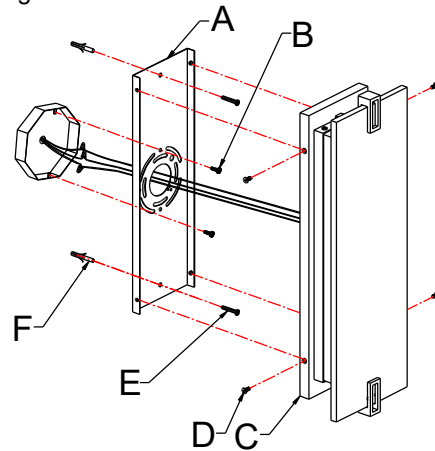

Fig. 2
### CONNECTING THE WIRES (Fig. 2)
6. Connect the electrical wires as shown in Fig. 2, making sure that all wire connectors are secured. If your junction box has a ground wire (green or bare copper), connect the fixture's ground wire to it. Otherwise, connect the fixture's ground wire directly to the mounting plate (A) using the green screw provided. After the wires are connected, tuck them carefully inside the junction box.